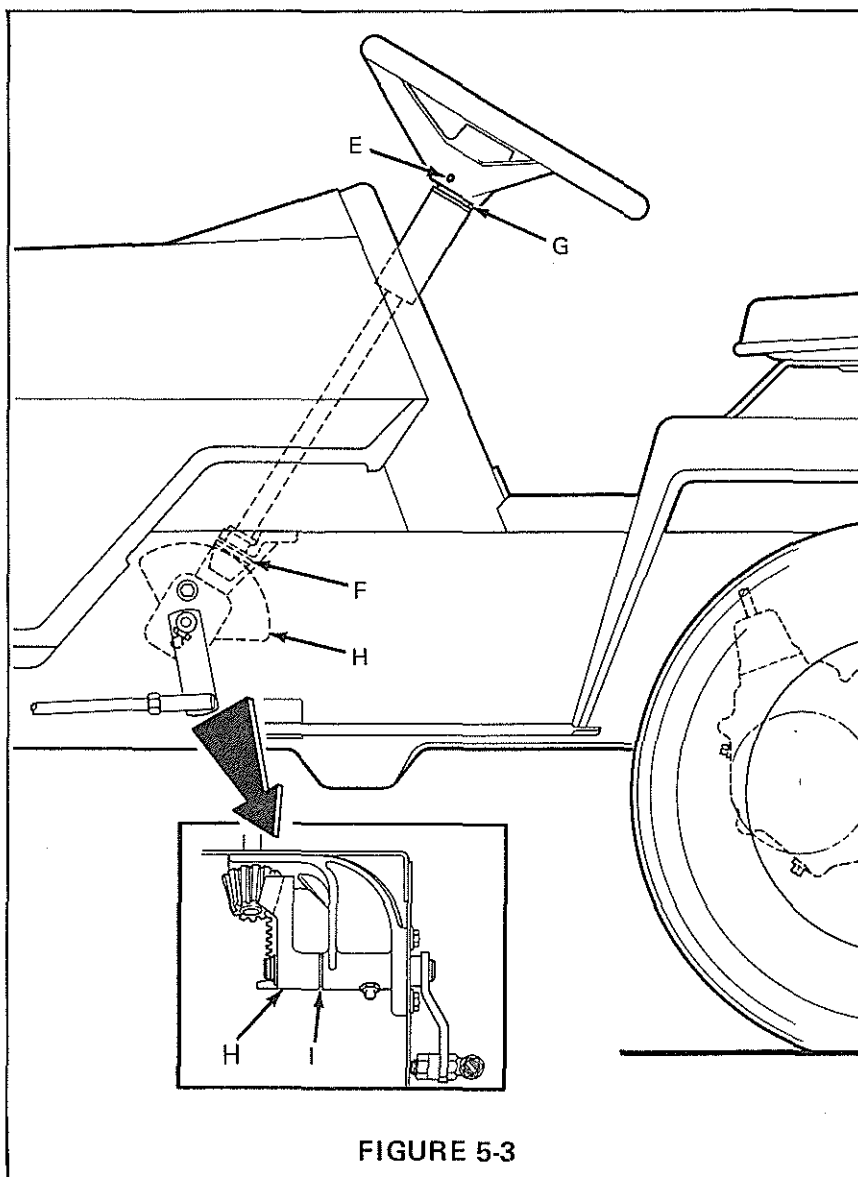

FIGURE 5-3
2. Disassemble the steering wheel by removing roll pin (E), Figure 5-3 and washer.
1. With flange bushing (F) slid onto the pinion shaft assembly, route it through the casting and through the steering column bearing. Slide on any needed shims at point (G) and secure the steering wheel with the roll pin (E) removed earlier.
2. With the steering wheel emblem right side up position steering gear (H) in steering casting.
3. With the steering arm pointed about 10° to the rear, (See Figures 5-1 and 5-3), slide it through the steering casting, and reinstall the shims removed earlier and steering gear (H) Figures 5-3.